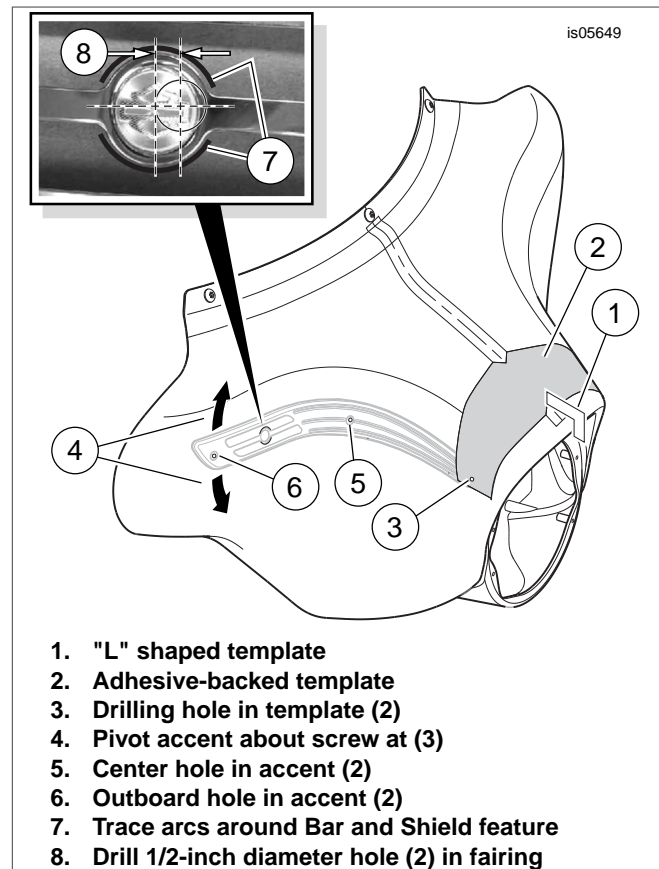

Figure 2. Mark and Drill Fairing Trim Mounting Holes
1. See Figure 2. Obtain the "L" shaped template (1) from the kit.
- b. Adhere the gasket to the accent by sequentially removing the release liner from the adhesive tape patches (A) located on the inside surface of the gasket.Press the gasket to the accent at each patch location.
11. Insert a #8-32 flat head screw (9) into the hole on the narrow end of the accent and gasket assembly and then through the right-side hole in the fairing.
12. Install a flat washer (10) and lock nut (11) onto the screw threads. Gently snug the accent assembly to the fairing, but do not tighten.
13. See Figure 2. Pivot the accent assembly (4) about the screw until it seats itself along the fairing. Make sure that gaps between the fairing and the gasket are minimized.
18. See the inset in Figure 2. Trace (7) around the arcs created by the Bar and Shield feature on both accents.